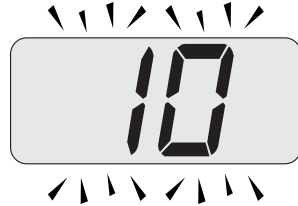

Fig. 7.27
- Press keys 9 and 11 (Fig. 7.24) at the same time until the value of parameter 11 (10=60 seconds) (Fig. 7.27) is displayed on the LCD display.